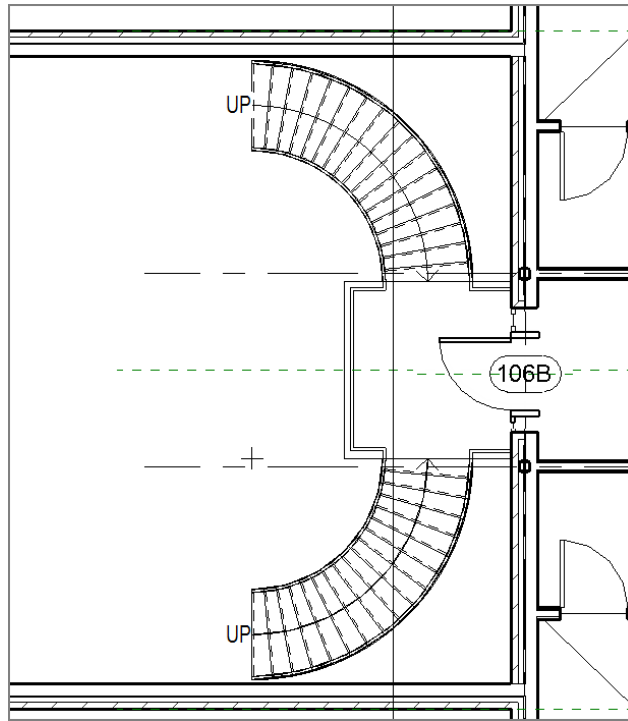

FIGURE 11.60: Tagging the door. Be sure you deselect Leader on the Options bar.
5. Pick the door shown in Figure 11.60. Your tag is added.